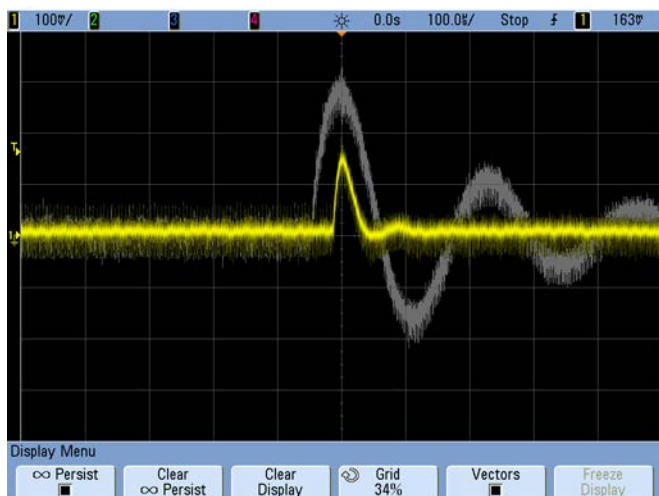

Figure 35. LTC3886 Adjustable Loop Step Response
- 5) Observe that you can drive the loop between instability and well-damped response simply by adjusting these registers (Figure 35).
In Figure 35 we see the voltage step response at IBV\_8V for a tuned loop (yellow) and a detuned loop (gray).